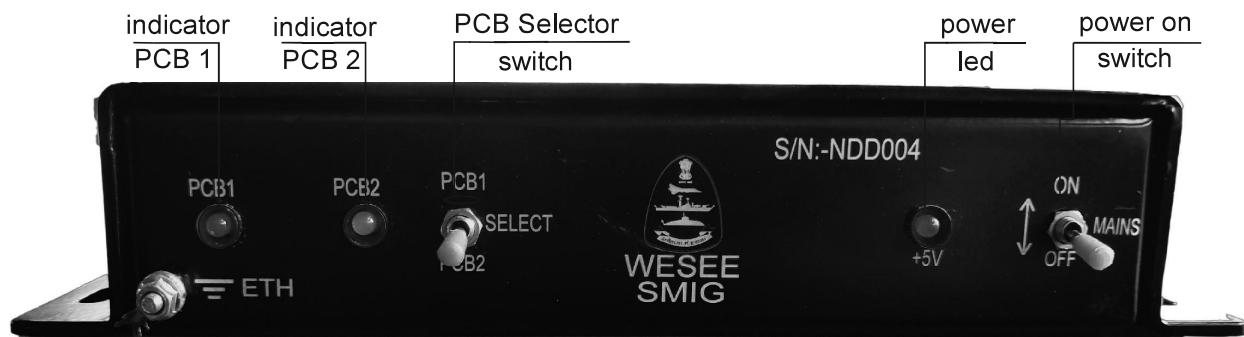

Figure 2 :- Front view of the NDIU Unit
6. We Have Also Provided an Additional PCB in This Unit Which you Can Use in Case of PCB 1 not working. To Use PCB 2, Use Select Switch Provided on The Front Panel (Figure 2.)